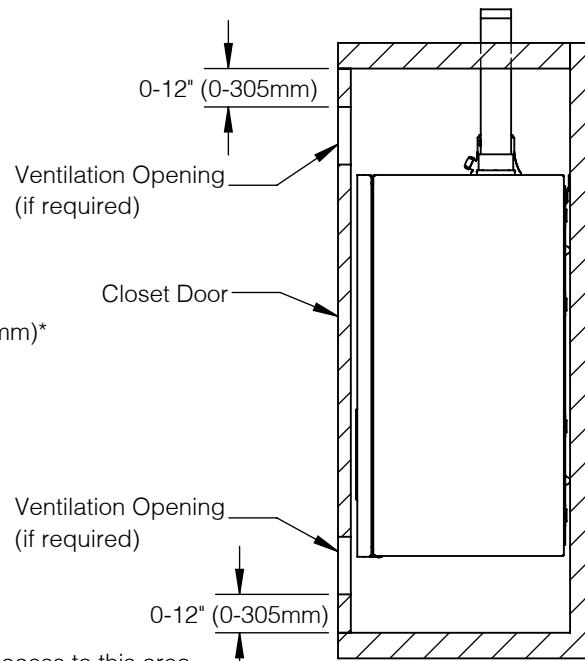

Figure 5-1 : Minimum Clearances to Combustible Construction
1. Provide clearances between boiler jacket and combustible material in accordance with authority having jurisdiction. Minimum clearances to combustible material shown in Figure 5-1.